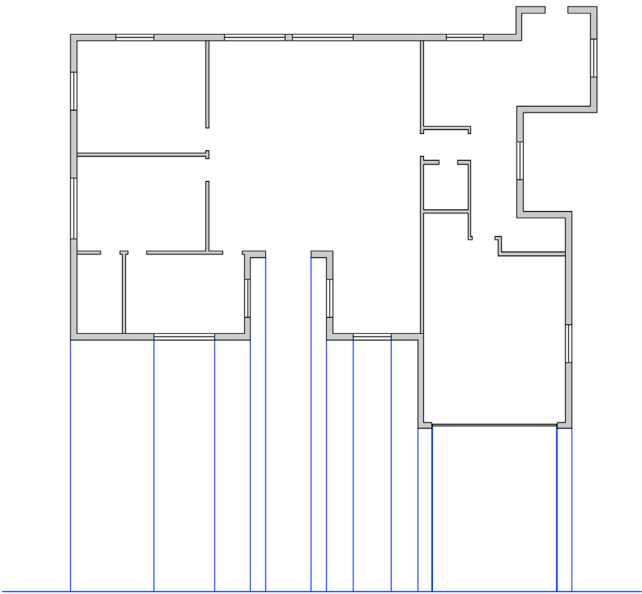

FIGURE 18.22 Elevation, Step 1.
- Step 1.** You need no new layers for this. Open up the floor plan, freeze all layers except the walls and windows, and draw guidelines straight down from each bend or feature in the wall (such as a door or window), as seen in Fig. 18.22.